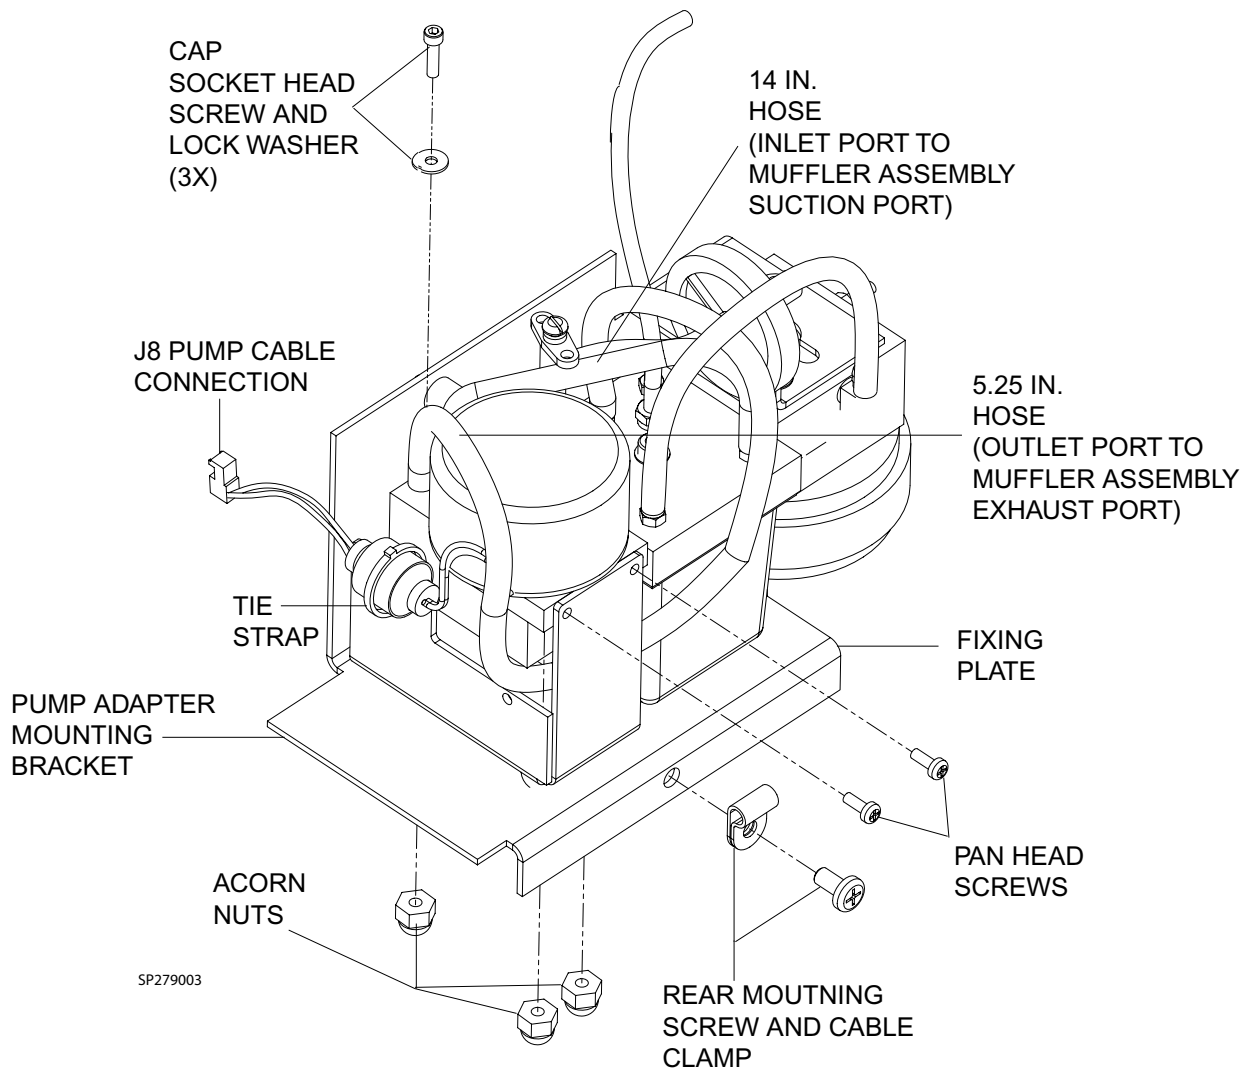

Figure 5-20. Installation of New Motor Pump Assembly
- 5.12.6.3 Installation of the New Motor Pump to the Pneumatic Assembly (See Figure 5-20.):